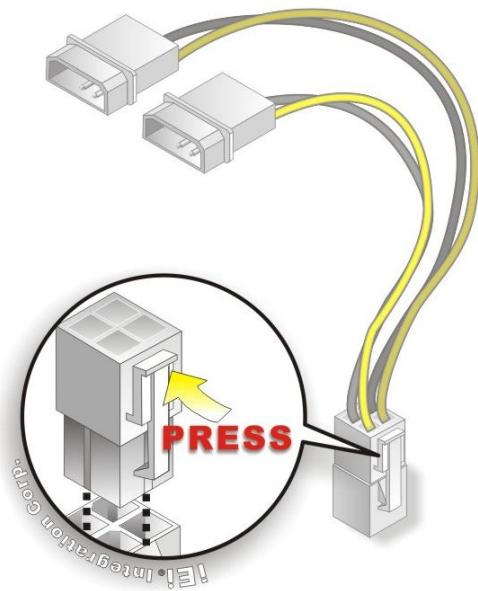

Figure 3-7: Power Cable to Motherboard Connection
Step 2: Connect the power cable to the motherboard. Connect the 4-pin (2 x 2) Molex type power cable connector to the power connector on the motherboard. See **Figure 3-7**.